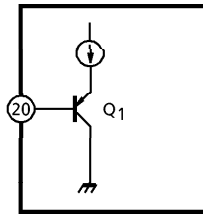

Fig.1
(1) Threshold voltage
Pin⑳ is coupled to the base of Q₁ (PNP-Tr) as shown in Fig.1.